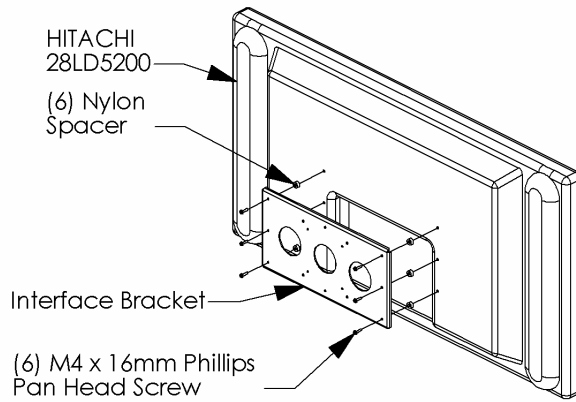

Figure 4
1b. Assemble six (6) M4 x 25mm Phillips pan head screws and six (6) Nylon spacers (see Figure 4).